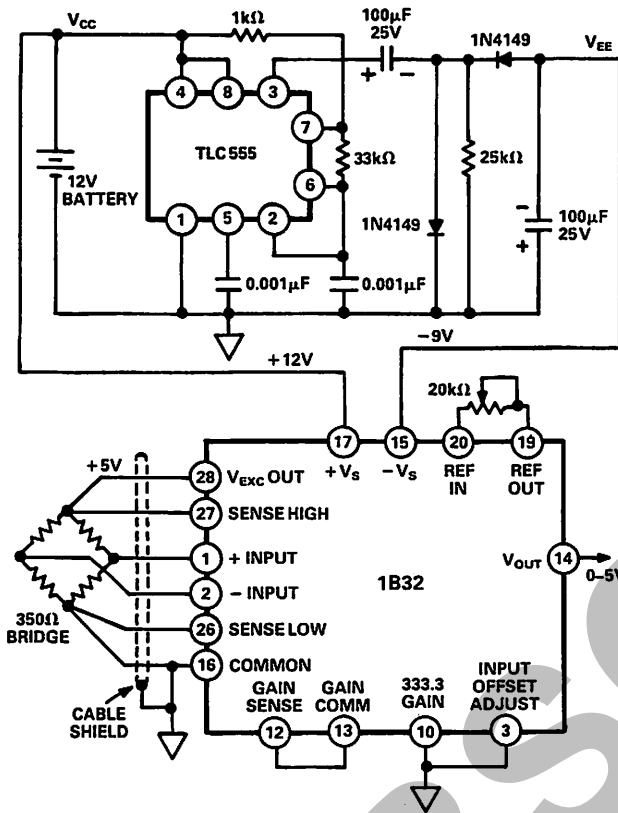

Figure 17. Negative Supply Generation for 1B32
**Mobile Transducer Applications:** The small size and reliability of the 1B32 make it an excellent choice for mobile applications. Since the 1B32 requires bipolar supplies, a possible circuit to provide the negative voltage is shown in Figure 17. The CMOS TLC555 is powered by a +12V battery, and typically draws 360μA. The output is a square wave that is rectified by the diodes and filtered to provide a -9V supply. Excitation voltage should be equal to or less than +9V for adequate headroom for the 1B32 voltage regulator. Note that the 1B32 will operate with ±9V supplies as long as the excitation voltage and the output range are less than 5V.